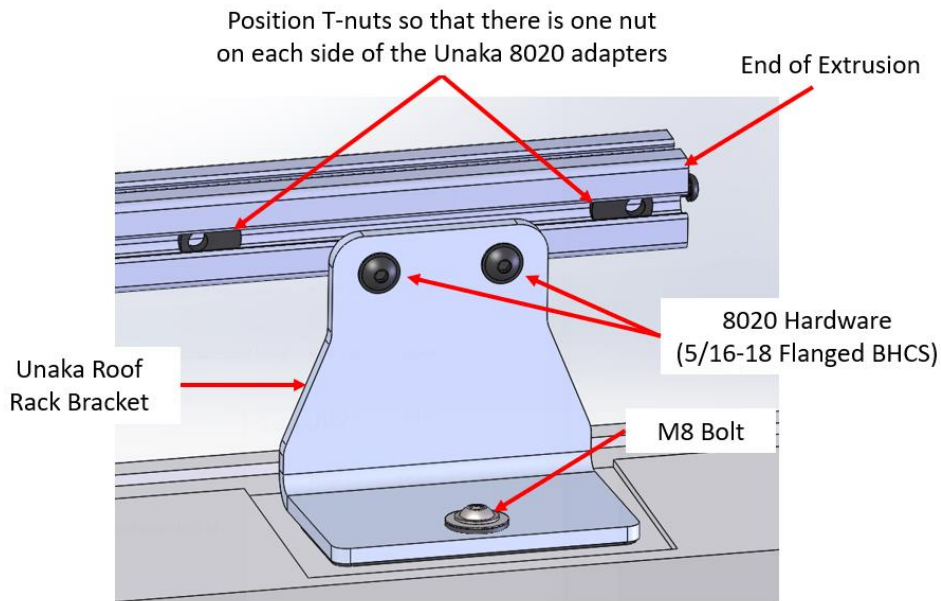

Figure 11: Unaka 8020 adapter hardware installation
3. Pick a t-slot in the extrusion (typically the top or the side closest to the adapters). Slide 2 x T-nuts into the extrusion for each 8020 adapter you will be bolting to. Space the T-nuts so they are 2" to 3" outside of the 8020 adapter profile on each side, Figure 11. This will allow you to slide them into place when you are ready to insert the hardware. We typically place the long end of